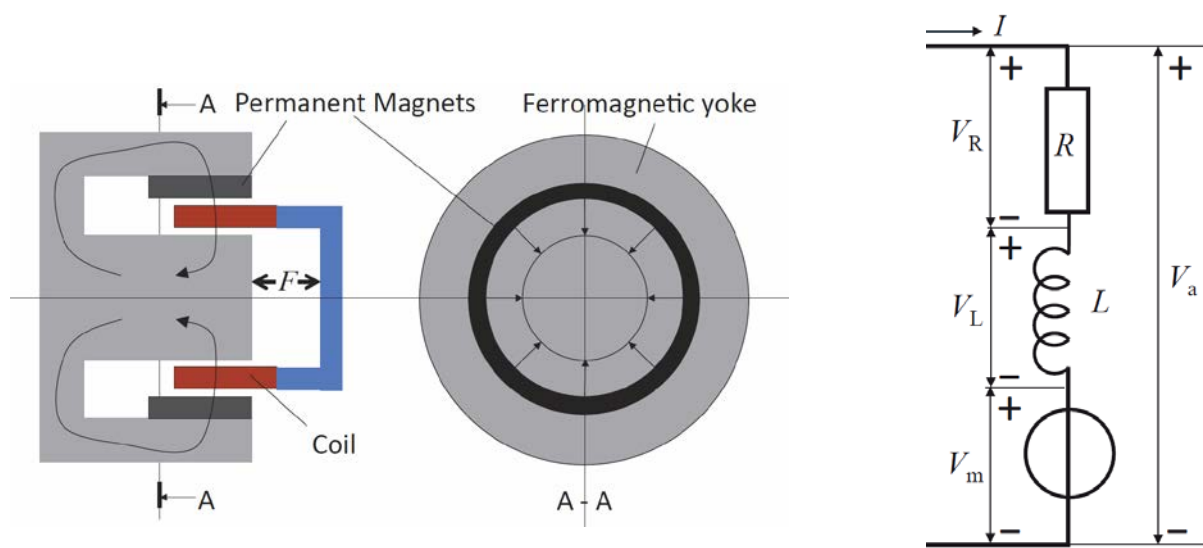

Figure 1: A Lorentz type actuator with its electrical equivalent circuit diagram
- The Lorentz actuator, as shown in figure 1, has a constant (ideal) motor constant $F = BI\ell = 10I$ ($B\ell = 10$)